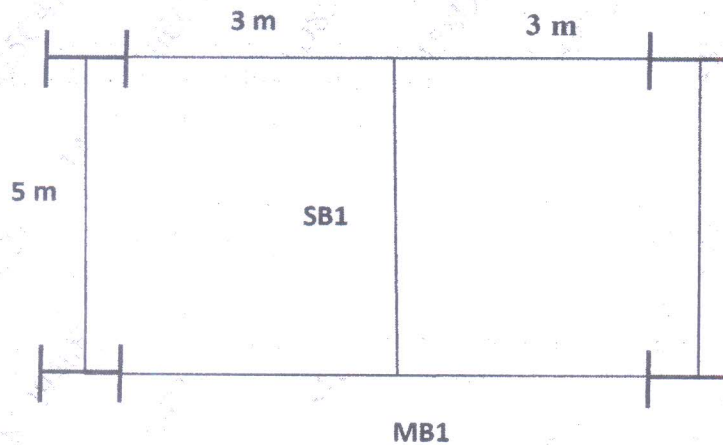

Fig.1
**Q 1 a)** The flooring system of an industrial shed is planned as shown in **fig.1** 32